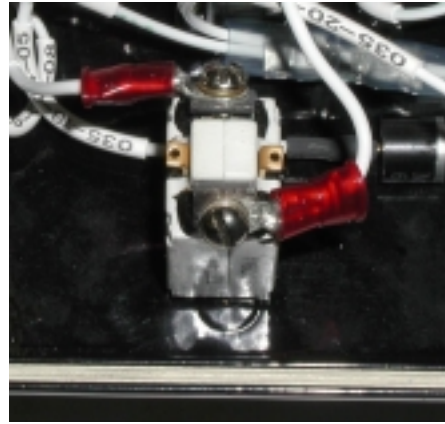

FIG. 3
4.5 Loosen the slotted screw on the outside wire lug. Move the lug so that it attaches on the opposite side of the inside wire lug and away from the connector. See FIG.3. Tighten the slotted screw.